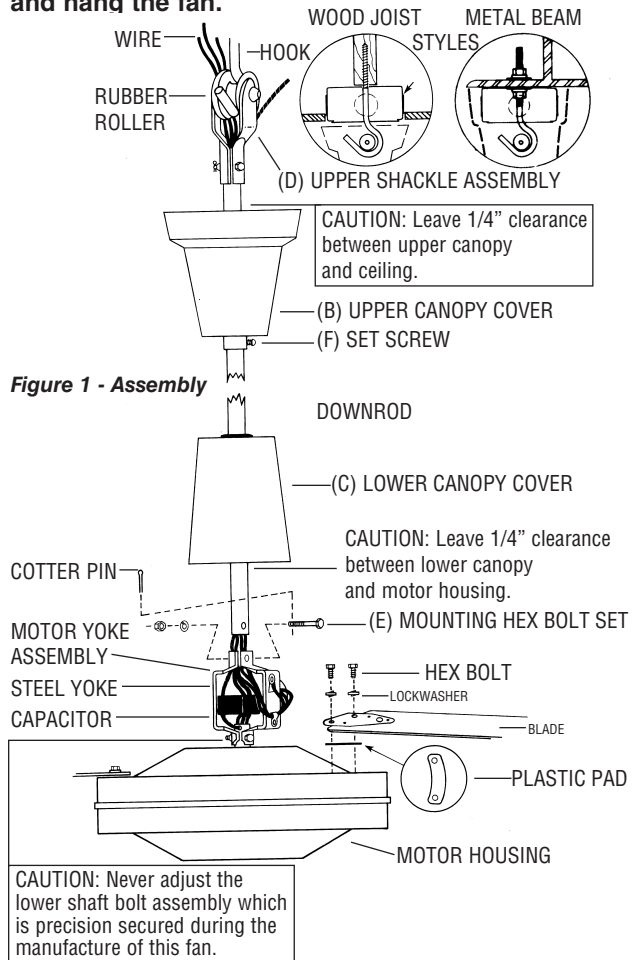

Figure 1 - Assembly
2. At the motor yoke assembly (A), remove the cotter pin and loosen the hexagon nut. Carefully remove spring washer and the hexagon screw (E). (See Figure 1)
3. Slide the upper canopy cover (B) (bell shaped) up the rod. Slide the lower canopy cover (C) up to rod.
CAUTION: Blades must be fastened to the motor as shown in Figure 1. DO NOT reverse blades when installing.